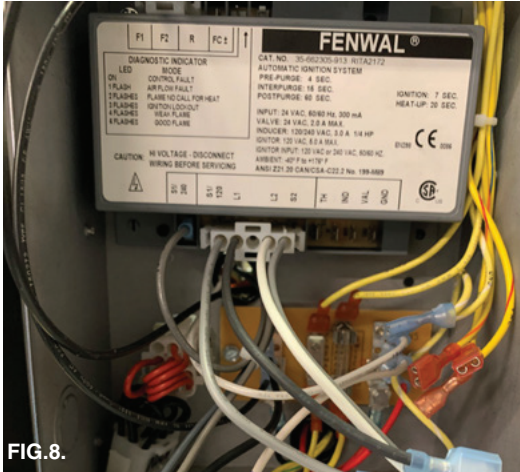
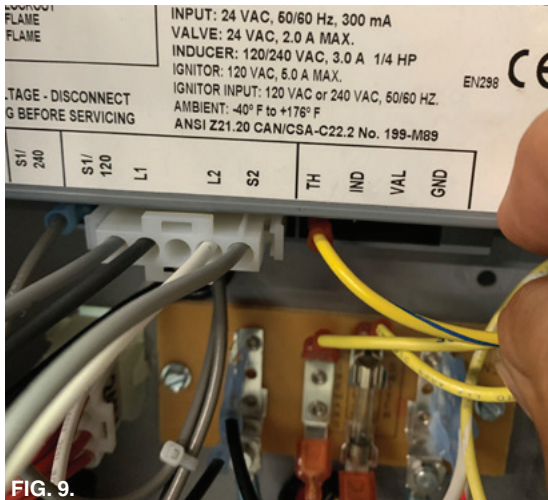

FIG. 8.
FIG. 9.
8. Connect the male terminals from F1 and F2 to the corresponding F1 and F2 cables of the wire harness as shown in Fig. 8 and Fig. 9.
7. Connect 240VAC gray cable with ¼" female terminal to ¼" tab at the lower left side of ICM as shown in Fig. 8.
8. Connect the Blue/Yellow wire to TH ¼" tab at ICM as shown in Fig. 9.